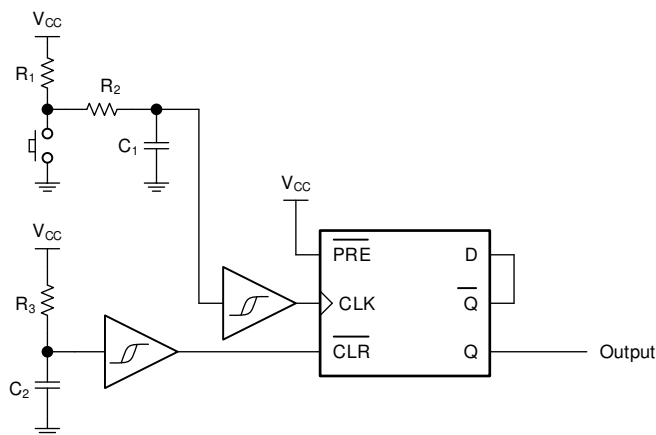

Figure 9. Typical application schematic
If the data input (D) of the SN74HC74-Q1 is tied to the inverted output ($\overline{Q}$), then each clock pulse will cause the value at the output (Q) to toggle. The momentary switch can be debounced and connected to the buffered clock input (CLK) to toggle the output. These connections are shown in Figure 9